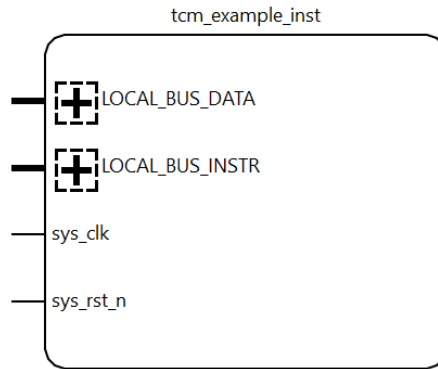

Figure 3.5. Generating TCM IP Instance
- The TCM IP instance is successfully generated, as shown in Figure 3.5.